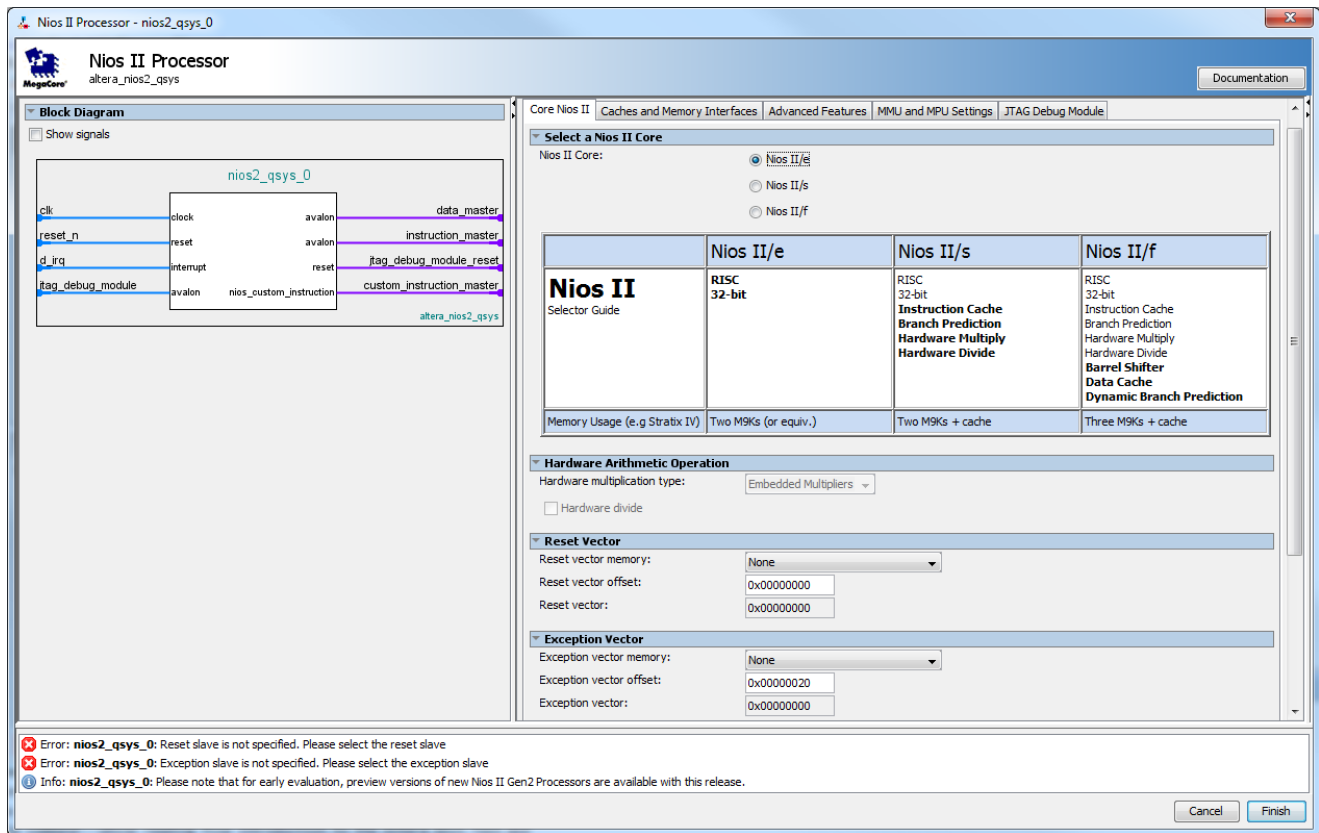

Figure 6. Create a Nios II processor.
- On the left side of the Qsys window expand Processors and Peripherals, select Embedded Processor > Nios II Processor and click Add, which leads to the window in Figure 6.